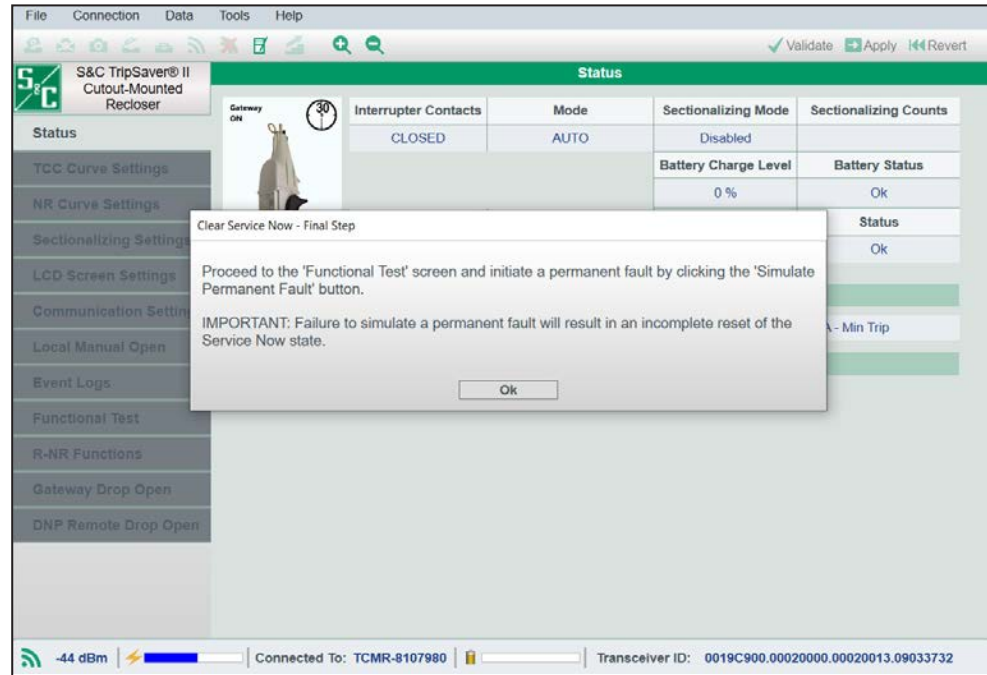

Figure 160. The Clear Service Now - Final Step dialog box.
STEP 7. The Clear Service Now–Final Step dialog box will appear. See Figure 160. Click on the **Ok** button.